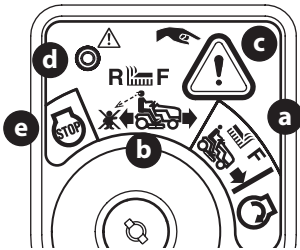

Figure 28
2. Turn the key from the NORMAL MOWING MODE  (a) position to the REVERSE CAUTION MODE  (b) position of the ignition switch module (Figure 28).
3. Press the REVERSE PUSH BUTTON  (c) at the top, right corner of the ignition switch module. The red indicator light (d) at the top, left corner of the ignition switch module will be ON while activated (Figure 28).
5. Always look down and behind before and while backing to make sure no children are around. After resuming forward motion, return key to the NORMAL MOWING MODE  (a) position (Figure 28).
6. The REVERSE CAUTION MODE (b)  will remain activated until (Figure 28):